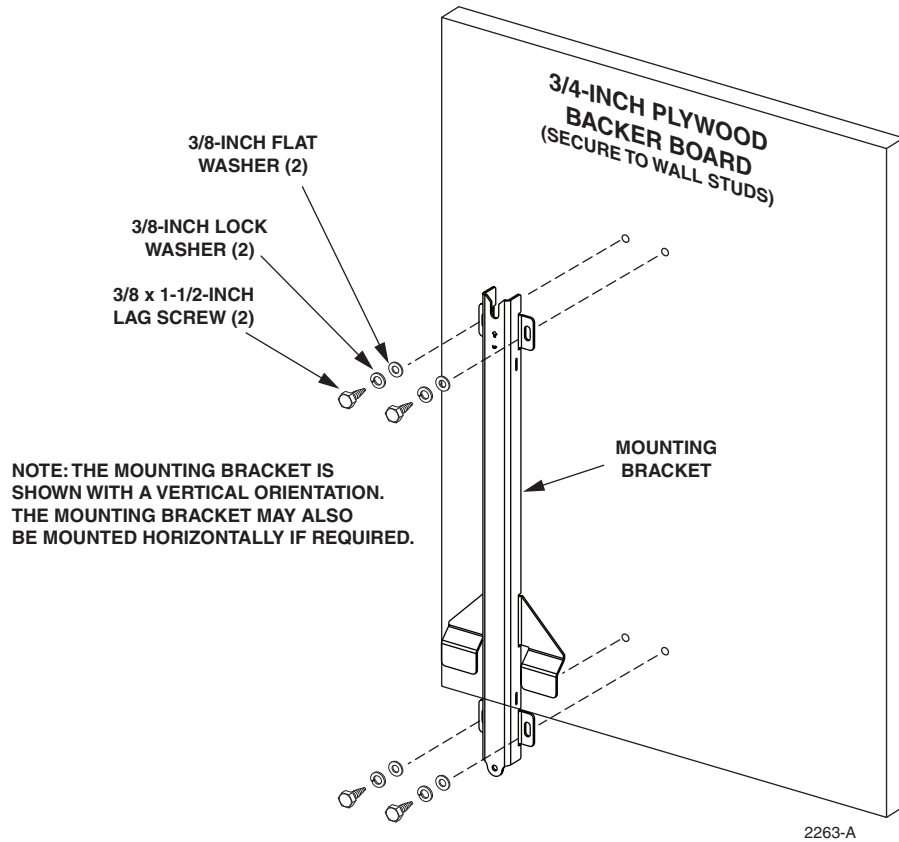

Figure 5. Secure Standard Mounting Bracket To Plywood Backer
2. Hold the enclosure mounting bracket in position for installation on the plywood backer as shown in Figure 5. The end with the V-notch should be at the top.